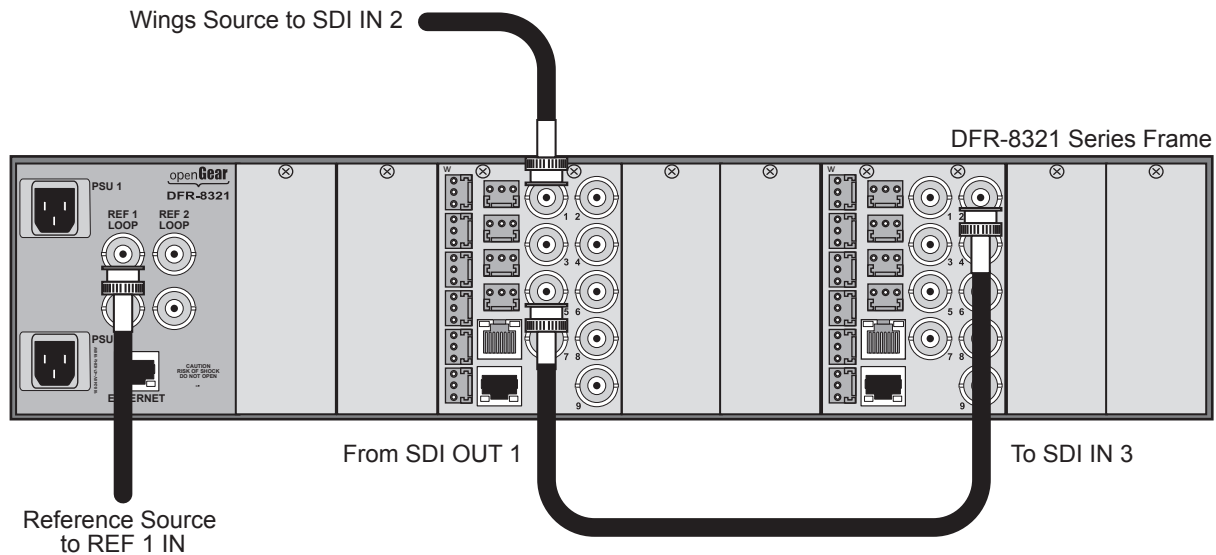

Figure 10.1 Cabling for the Cascade feature
In **Figure 10.1**, the rear module depicted on the left is for the **first** UDC-8625A-B while the rear module on the right is for the **second** UDC-8625A-B. Note that the slots that your rear modules are installed in may differ than what is presented here. Ross Video does not supply the required cables.
1. Connect an input video signals to **SDI IN 2** (BNC 1) on the first UDC-8625A-B. For simplicity, **Figure 10.1** depicts only one SDI input, but you may require more. Refer to the section “**UDC-8625A-B Rear Module**” on page 2-9 for specific cabling designations.